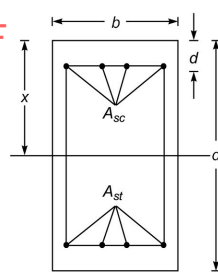

Fig. Q. 62
62. For the R.C. beam shown in Fig. Q. 62 the depth of neutral axis x for serviceability calculations is given by